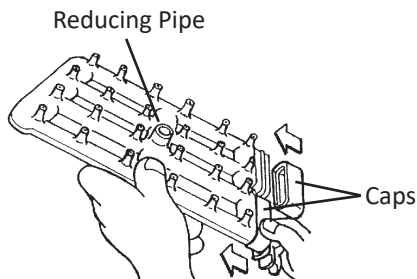

Fig. 46
- 11) Refit the 2 caps in their correct positions. Make sure the reducing pipe is in place in the center. See Fig. 46.